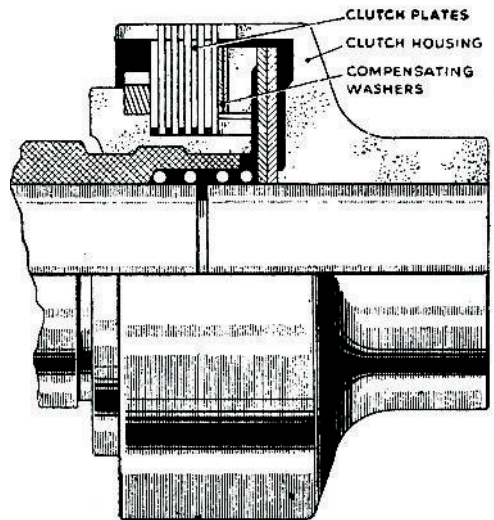
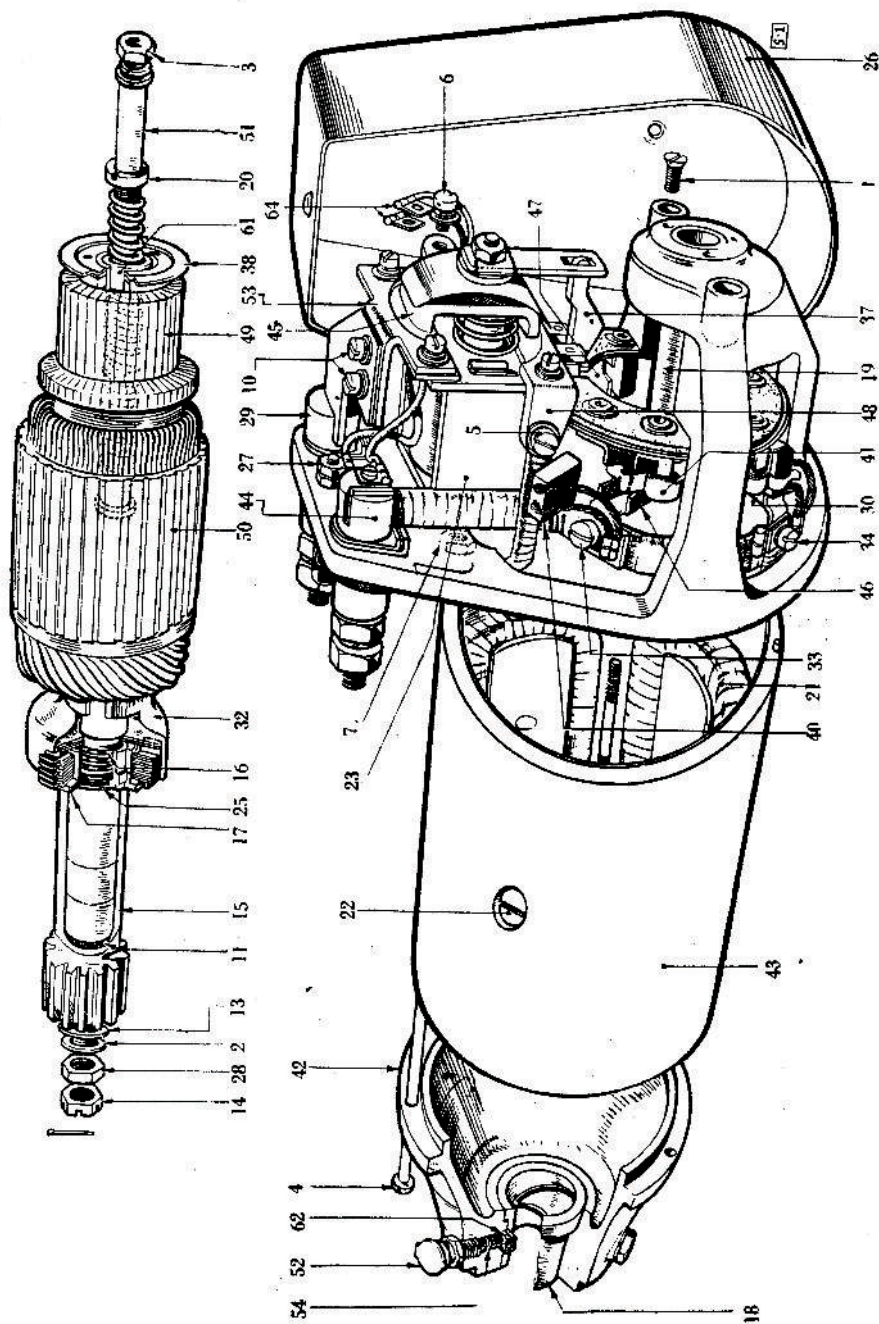

Fig. 294.—The Leyland C.A.V. Starter Clutch Overload Device.
Fig. 293.—The C.A.V. Axial Starter, as fitted to Leyland Vehicle.
It is now proposed to describe in more detail the starter fitted to heavy oil-engine vehicles, e.g. the Leyland " Comet "and A.E.C. "Mammoth Major."The starter, which is shown in dismantled form in Fig. 293, is the C,A,V,Type BS5224K, operated from a 24-volt battery. It has a reduction ratio to engine flywheel ring of 13.25:1.It employs a clutch "overload" device (Fig. 294) to prevent any damage occurring due to an engine backfire.
When the starter button is operated the magnetic field set up in the switch windings draws in a plunger until the trigger catch plate (38) (Fig.293) rests on the step in the trigger (37). This movement closes the moving contact (45 long arm) on to fixed contact (53); this completes the auxiliary and shunt-field coil circuits giving the starter armature its axial movement, and gently but positively engages the pinion with the teeth on the flywheel ring.
Faulty armature adjustment or a worn trigger may be the cause. If the Starter should (3) If the starter should "crash" into engagement the trigger (37) (Fig 293) and plate (38) should be examined for wear.
(4) If the starter operates intermittently when the starter button is held down this may be due to the second contacts (48) on the solenoid switch being burnt or to wear of the motor bushes.
(5).If the bearing (18) at the driving end of the motor becomes worn this will result in slow engagement and considerable loss of power owing to the armature touching the pole pieces.
(6) Should the motor operate without cranking the engine this is due possibly to a slipping clutch or worn flywheel teeth. Another possible cause is movement of the starter in its mounting away from the flywheel
An arm 1 ft. long is fixed as shown and a weight pan arranged. When newly assembled the clutch should be adjusted to slip at 100 to 115 ft lb. The tests should be repeated several times using weights of 100 to 115 lb at the end of the lever. If the clutch slips at less than 80 ft.-lb. a compensating washer (Fig 294) must be fitted between the clutch plates and the back ring. Washers are supplied in thicknesses of .004" and .006" and one or more must be inserted as required.